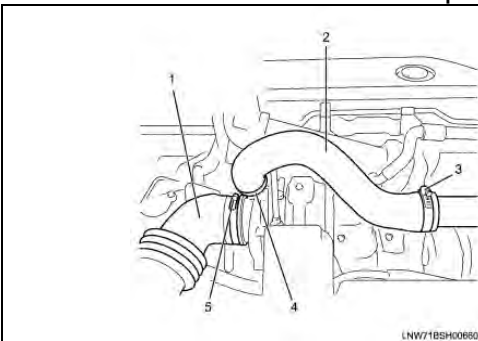

Figure 7
8. Disconnect the air intake duct from the turbocharger (see Figure 7).
9. Remove the charge air hose from the turbocharger and the charge air cooler (see Figure 7).